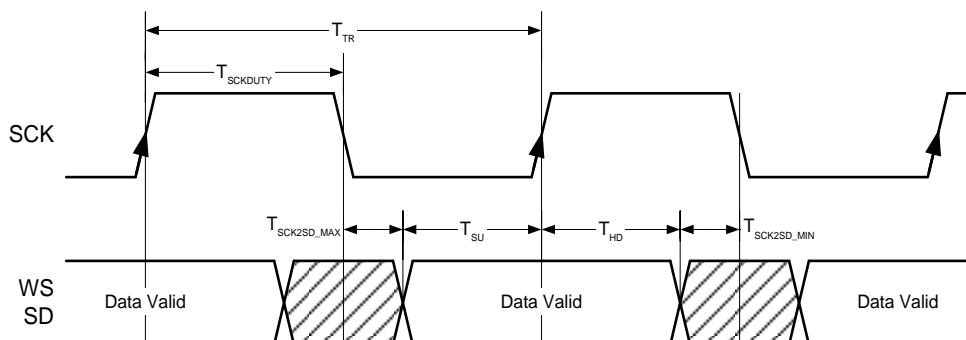

Figure 6.6. I2S Output Timings
1. Refer to Figure 6.6 on page 30. Meets timings in Philips I2S Specification.
Valid serial data is available at  $T_{\text{sck2sd}}$  after the falling edge of the first SCK cycle, and then captured downstream using the active rising edge of SCK one clock period later. The setup time of data to SCK ( $T_{\text{SU}}$ ) and hold time of SCK to data ( $T_{\text{HD}}$ ) are therefore a function of the worst case SCK-to-output data delay ( $T_{\text{sck2sd}}$ ). Figure 6.6 on page 30 illustrates this timing relationship. Note that the active SCK edge (rising edge) is shown with an arrowhead. For a falling edge sampling clock, the logic is reversed.